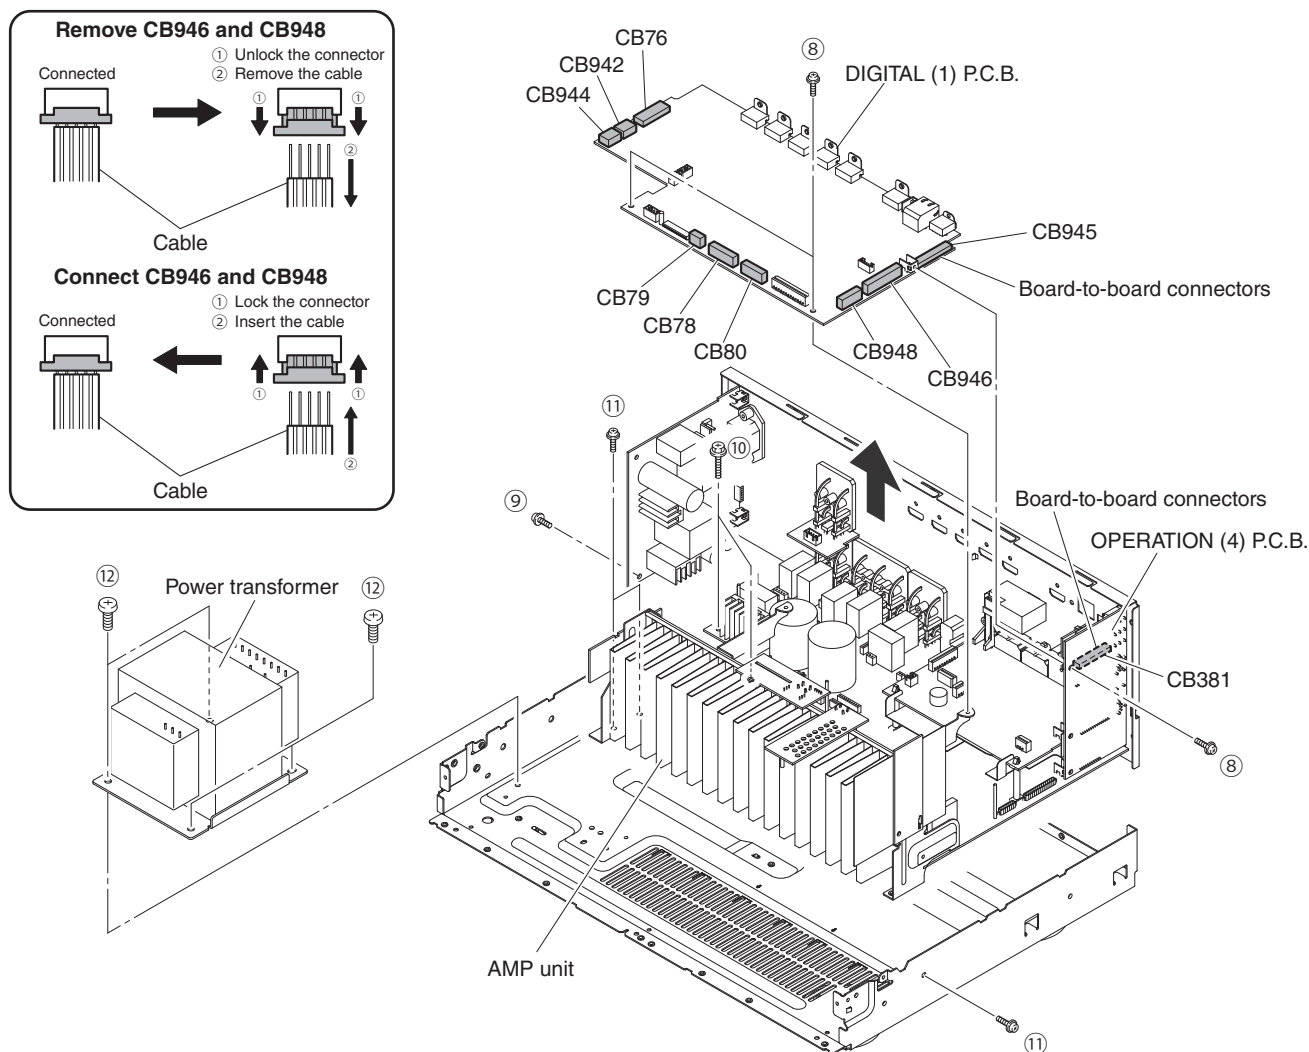

Fig. 2
- Remove 3 screws. (⑧). (Fig. 2)
- Remove CB76, CB78, CB79, CB80, CB942 and CB944. (Fig. 2)
- Unlock and remove CB946 and CB948. (Fig. 2)
- Remove the DIGITAL (1) P.C.B. which is connected directly to the OPERATION (4) P.C.B. with board-to-board connectors. (Fig. 2)
- Remove screw (⑨), 2 screws (⑩), 3 screws (⑪) and 4 screws (⑫). (Fig. 2)
- Remove the AMP unit together with the power transformer. (Fig. 2)